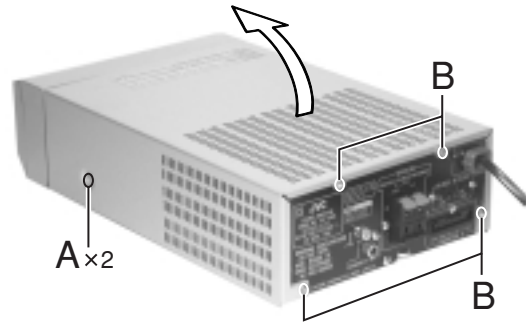

Fig. 1
■Removing the top cover (See Fig.1)